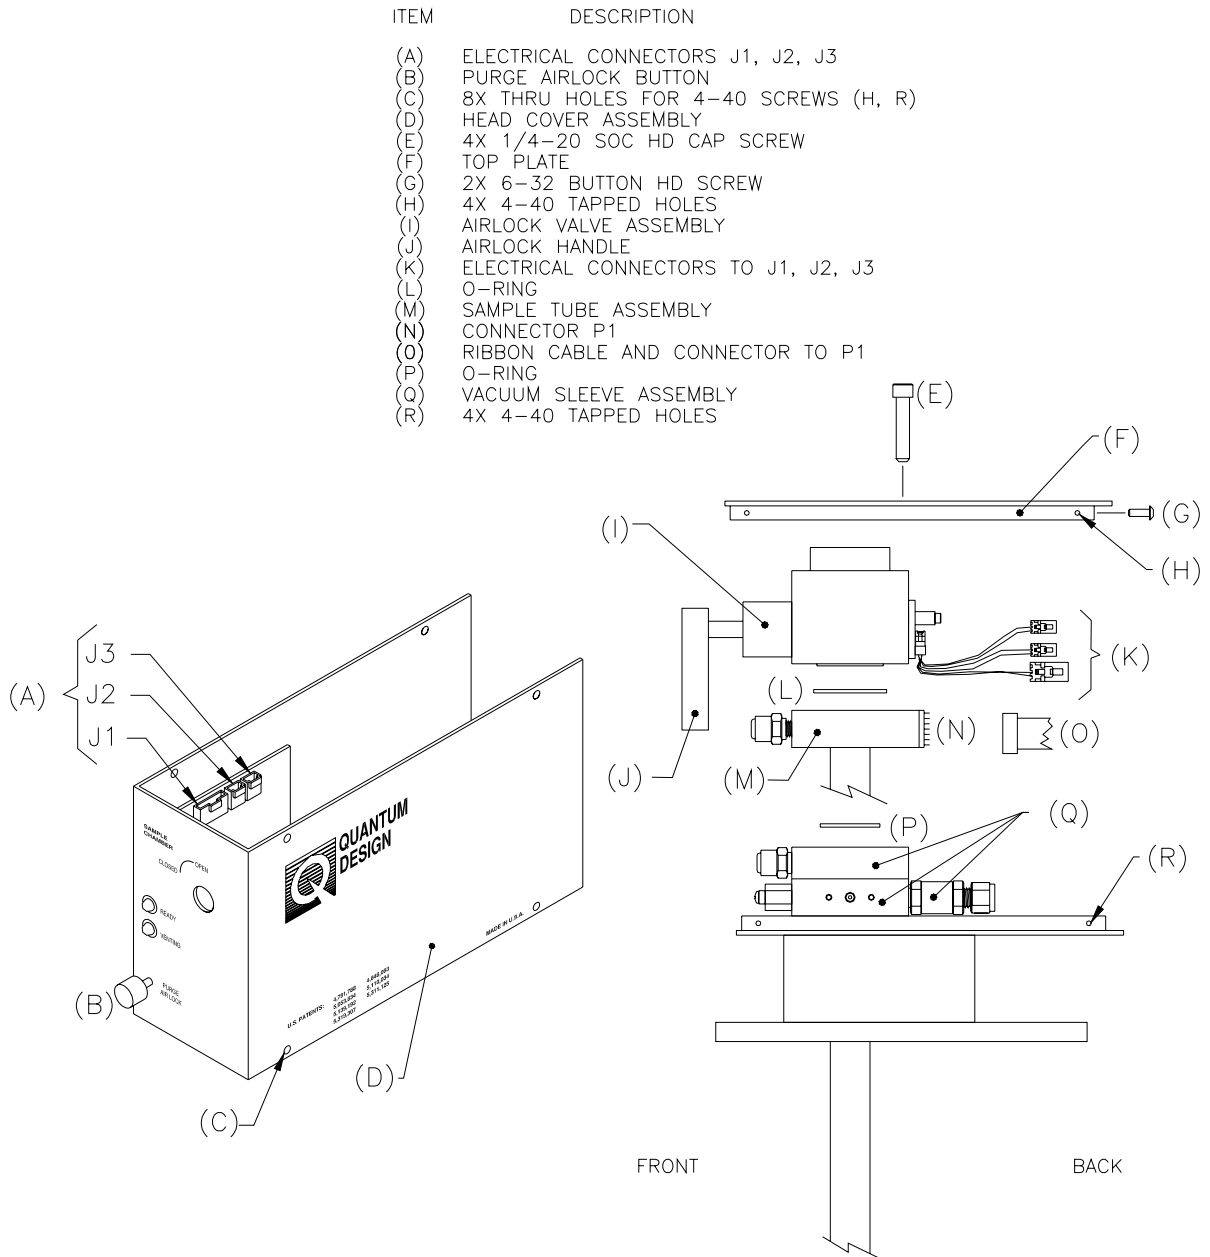

Figure 2. Components of probe head
1. Loosen and remove the 7/64 hex nut that is inside the black airlock handle (J, Figure 2).
1. Loosen and remove the eight 4-40 button head screws (C, Figure 2) that hold the head-cover assembly (D, Figure 2) in place.
2. Gently pull the head-cover assembly away from the components, working carefully so that you do not damage the wires (K, Figure 2) leading to the J1, J2, and J3 electrical connectors (A, Figure 2) mounted on the inside.
Important: In this phase, you will be removing the four screws (E, Figure 2) that fasten all the probe head assemblies together. Be careful not to shift the assembly components before it is time to remove them in Section I.F below.
1. Loosen and remove the four 1/4-20 cap screws (E, Figure 2) from the top of the top plate (F, Figure 2).
2. Loosen and remove the two 6-32 button head screws (G, Figure 2) from the back of the top plate.
1. Detach the cable assembly (O, Figure 2) from the electrical connector (N, Figure 2) on the sample-tube assembly (M, Figure 2). Note that the brown wire connects to pin number 1 and is aligned with the arrow on the connector socket of the sample-tube assembly.
2. Move the airlock-valve assembly (I, Figure 2) out of the way just enough so that you will be able to remove the sample-tube assembly.
3. Locate two O-rings: one (L, Figure 2) is located where the airlock-valve assembly mates with the block of the sample-tube assembly (M, Figure 2), and the other (P, Figure 2) is located where the sample-tube assembly block mates with the vacuum-sleeve assembly (Q, Figure 2). Put the O-rings to the side for use with the new sample-tube assembly.
1. Examine the O-rings that are referred to in Step I.F (L and P, Figure 2) to determine if they are clean and well coated with Apiezon M grease. Clean and grease them if necessary, then put them back in place.
2. Grip the new sample-tube assembly by the brass block and slowly insert it into the vacuum-sleeve assembly (Q, Figure 2). You might need to turn the tube slightly as you lower it so that it will fit. Keep the sample tube straight, and take care with the fragile wiring along the outside of the sample tube.
4. Reattach the cable assembly (O, Figure 2) to the connector (N, Figure 2) on the sample-tube assembly (M, Figure 2). Note that the brown wire connects to pin number 1 and is aligned with the arrow on the connector socket of the sample-tube assembly.
5. Move back the airlock-valve assembly (I, Figure 2) until it is properly seated on the sample-tube assembly.
1. Seat the top plate (F, Figure 2) onto the airlock-valve assembly, aligning the screw holes.
2. Insert the four 1/4-20 cap screws (E, Figure 2) into the holes in the top of the top plate, but do not tighten them yet.
3. Insert the two 6-32 button head screws (G, Figure 2) into the holes in the back of the top plate, but do not tighten them yet.
1. Reattach the leads (K, Figure 2) to the J1, J2, and J3 electrical connectors (A, Figure 2) inside the head-cover assembly (D, Figure 2).
2. Fit the head-cover assembly around the airlock-valve assembly, the sample-tube assembly, and the vacuum-sleeve assembly, matching the thru holes on the head-cover assembly with those on the top plate (H, Figure 2) and under the vacuum-sleeve assembly (R, Figure 2).
3. Insert the eight 4-40 screws (C, Figure 2) into the thru holes in the head-cover assembly, but do not tighten them yet.
4. Simultaneously tighten the screws located at C, E, and G (Figure 2) on the head-cover assembly and the top-plate.
1. Push the black airlock handle (J, Figure 2) back onto the airlock-valve assembly (I, Figure 2).
1. Seat the sample transport (Figure 1) onto the top plate (F, Figure 2), aligning the screw holes.
6. Purge the airlock by pressing the **Purge Airlock** button (B, Figure 2).
5. Purge the system several times by pressing the **Purge Air Lock** button (B, Figure 2).
4. Purge the system several times by pressing the **Purge Air Lock** button (B, Figure 2).